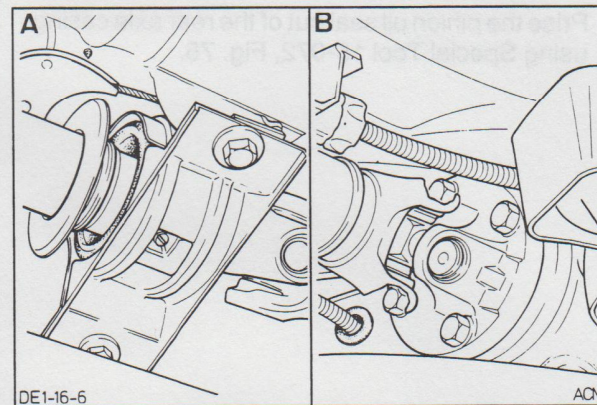

Fig. 72. A - Driveshaft centre bearing
3. Disconnect the driveshaft from the drive flange and the centre bearing from the floor assembly, Fig. 72. Retain the spacer washers.